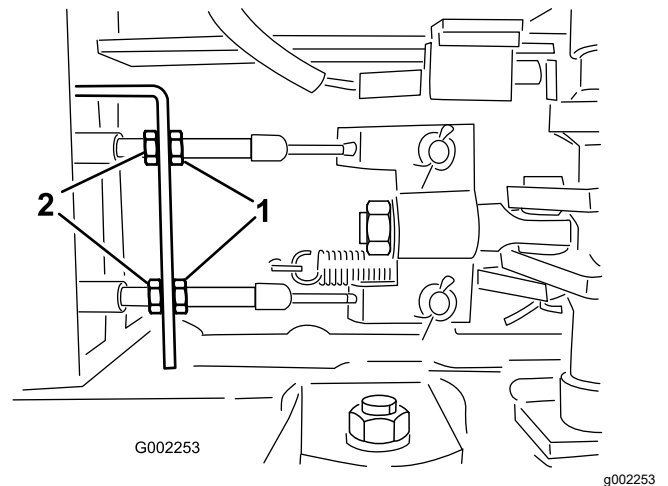

Figure 106
5. Loosen the front jam nuts on the brake cables under the front end of the sprayer (Figure 106).
6. Tighten the rear jam nuts equally until the brake pedal moves between 1 to 2 cm (1/2 to 1 inch) before you feel resistance (Figure 106).